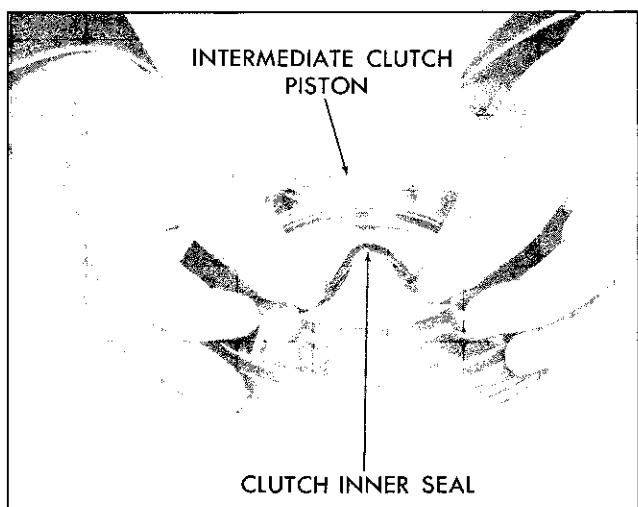

Fig. 7E-110 Installing Intermediate Clutch Inner Seal
1. Install new inner and outer seals on piston with lip of seal facing away from spring pocket (Fig. 7E-110 and 7E-111).
pockets of piston into cored areas of center support (Fig. 7E-112).